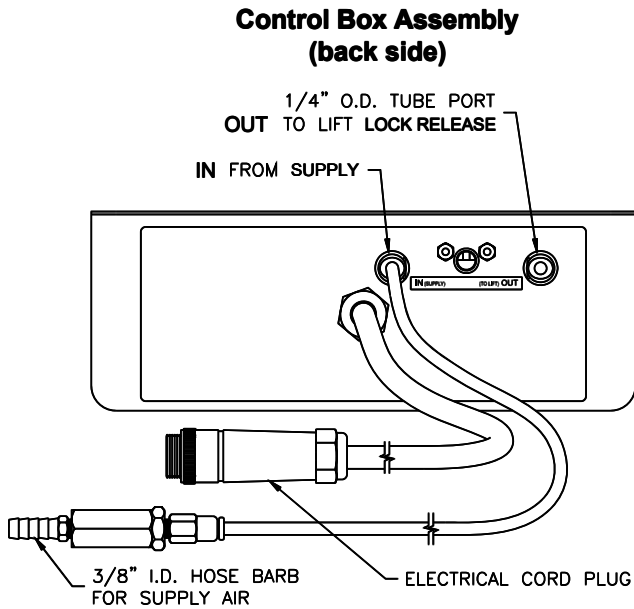

Fig 8 – Control Box Connections
- 9) Insert the 1/4" O.D. lock release tube into the 1/4" tube union adapter in the lift and into the 1/4" tube port on the back of the control box labeled "OUT (TO LIFT)", Fig 8.
- 10) Connect the shop air supply to the 3/8" Hose Barb attached to the tube labeled "IN (supply)" on the back of the control box, Fig 8.
- 12) Insert the Control Box electrical cord plug into the mating receptacle mounted at the bottom of the motor wiring box. Twist plug collar to lock in place, Fig 8.